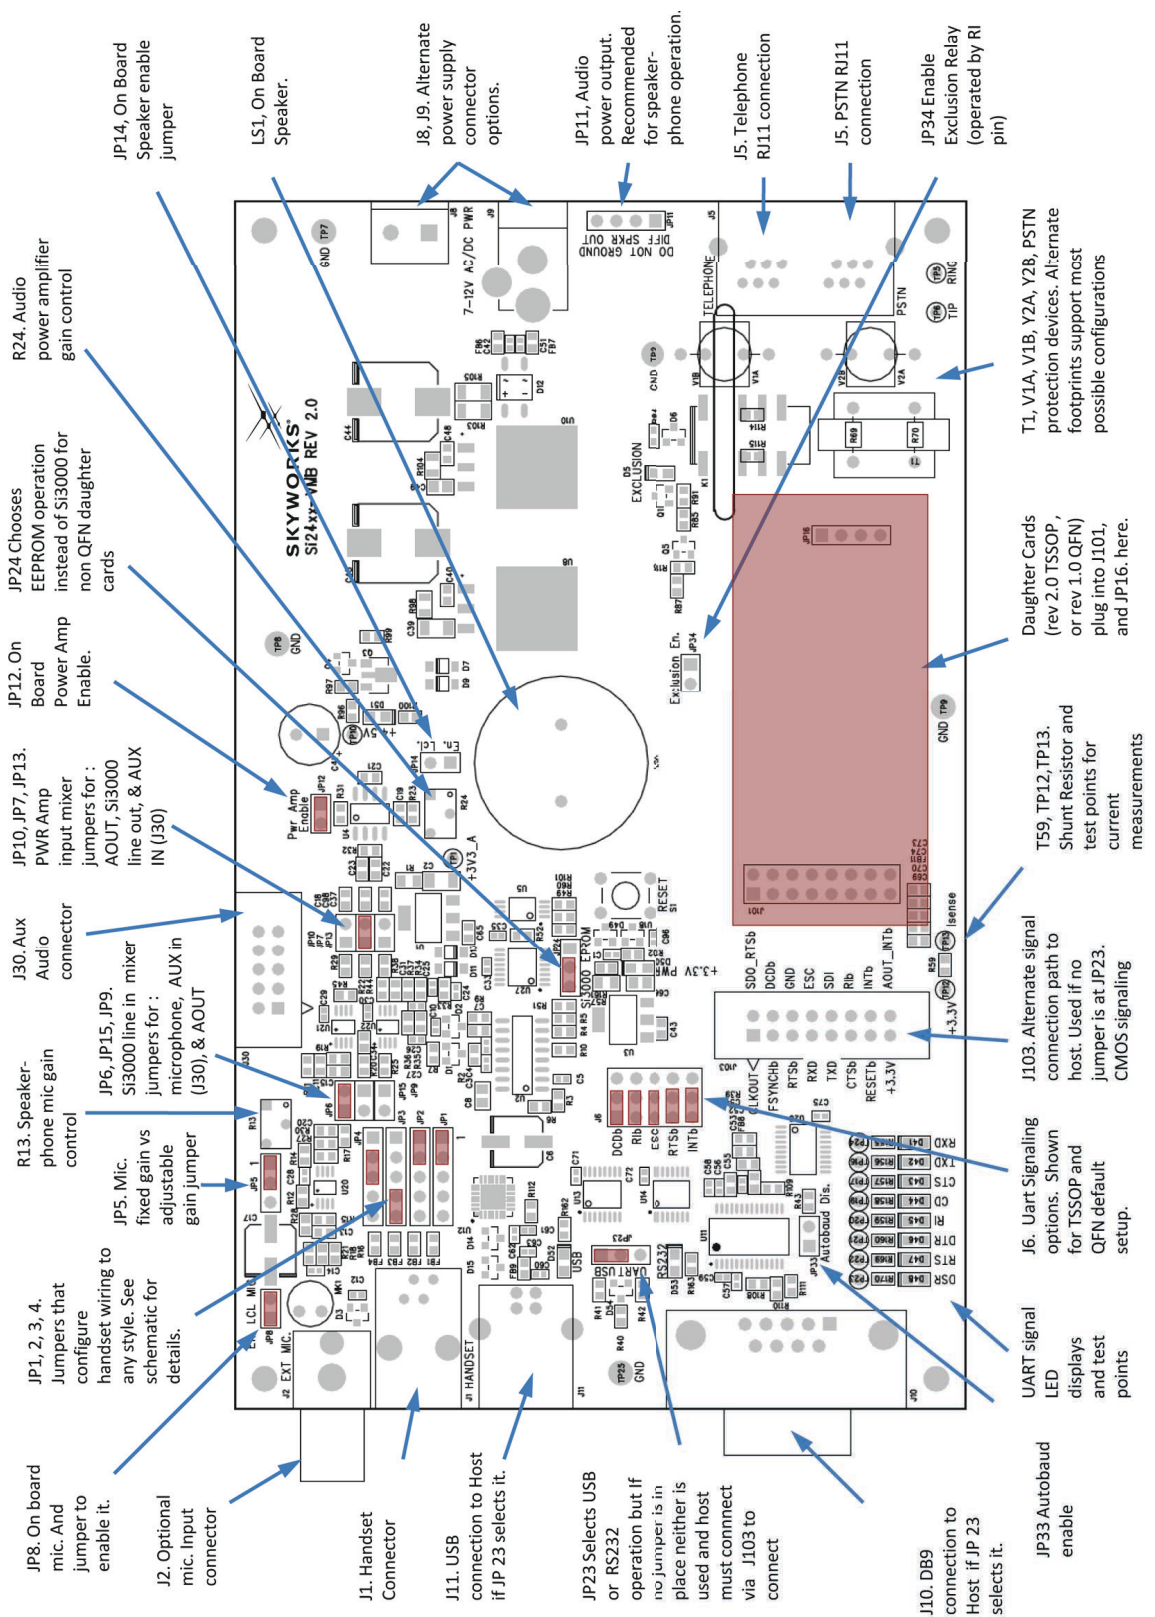

Figure 5. Function and Location of Global Voice ISOModem EVB Jumpers
Figure 5 shows the function and location of the jumpers present on the global fax EVB.
1. Set jumpers according to the default configuration shown in Figure 5.